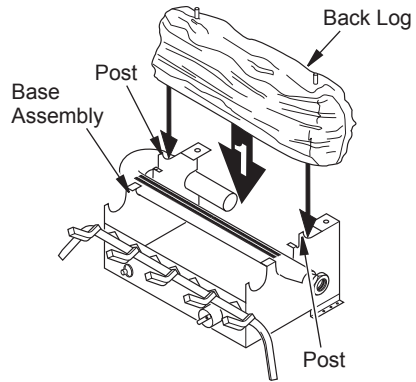

Figure 26 - Installing Back Log
1. Place back log onto back of base assembly. Make sure log sits forward against 2 posts in front of log (see Figure 26). This log may be turned to face either direction.